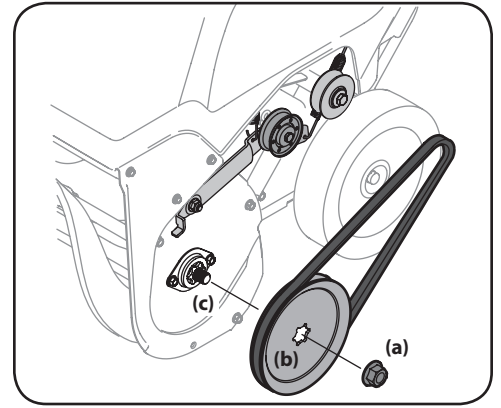

Figure 4-5
5. Remove the flange nut (a) that secures the auger pulley (b) to the auger shaft (c). See Figure 4-5.